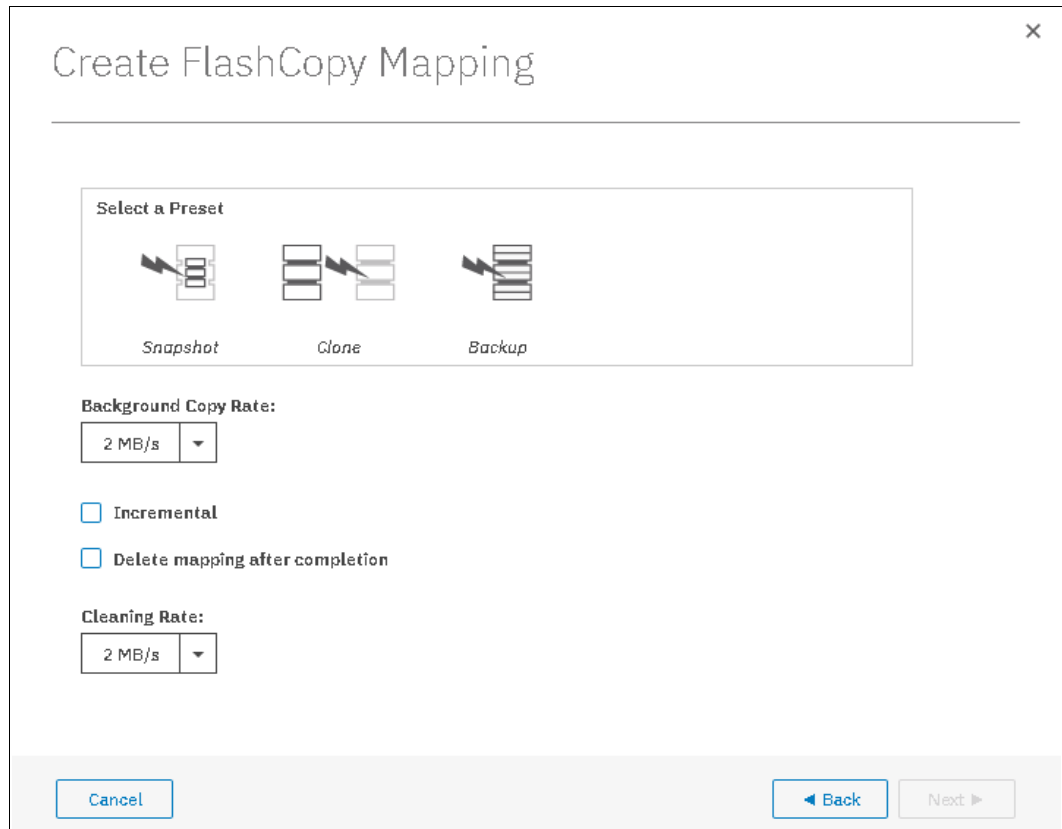

Figure 10-18 Create FlashCopy Mapping Presets
5. For each preset, you can customize various advanced options. You can access these settings by clicking the preset. The preset options are shown in Figure 10-18.
You can customize the following advanced setting options, as shown in Figure 10-18.